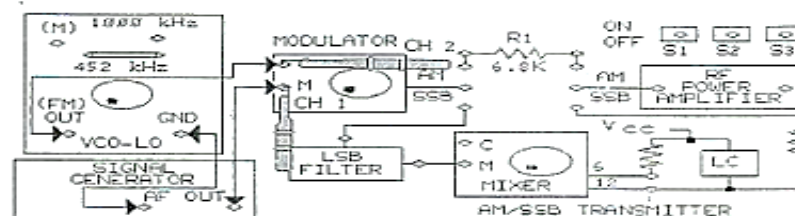

Figure 4-22.
1. To connect and adjust the SSB TRANSMITTER circuit for an SSB signal to the MIXER, first connect the circuit shown. Be sure to place a two-post connector in the 452 kHz position on the VCO-LO circuit block. The LSB FILTER connects to the MODULATOR with another two-post connector (Figure 4-22).